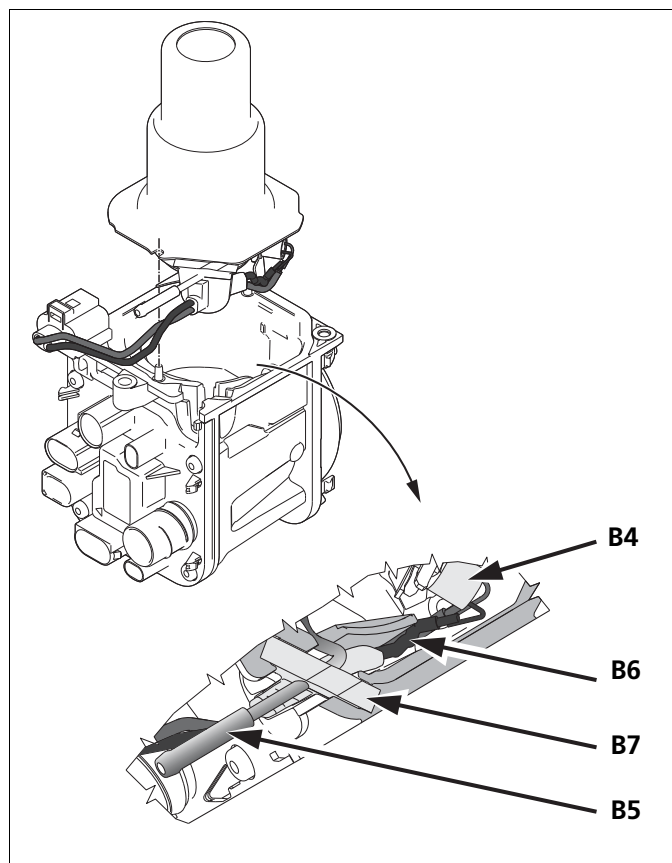

Fig. 904 Detailed illustration of cable routing for glow plug
1. Pre-position burner unit with grommet (B7) in combustion-air fan unit (G1). During installation, make sure that the glow plug cable (B6) and grommet (B7) are mounted in the guide and groove provided on the combustion-air fan unit (G1) (see Fig. 904). Press grommet (B7) into groove provided until it completely fill out the installation space.
When installing the burner unit, the cable must be routed so that it lies in the groove provided. Also see Section 9.2.2 and Fig. 904.